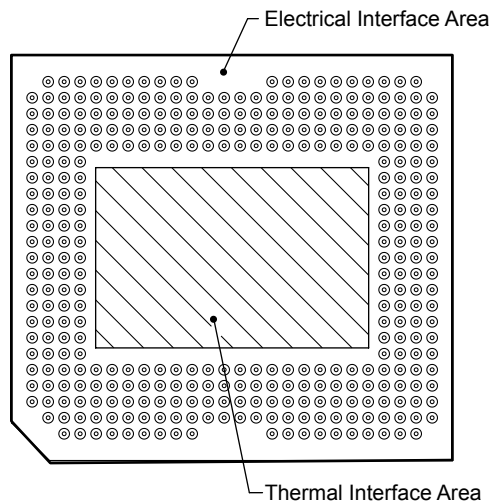

图 6-10. System Mounting Interface Loads
(1) Uniformly distributed within area shown in 图 6-10